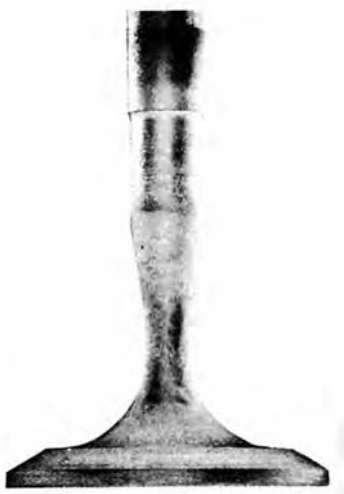
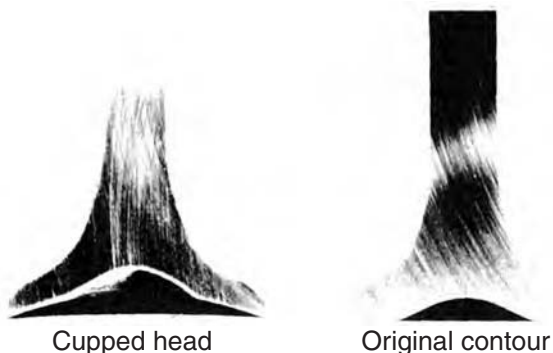

FIGURE 8.6 A “necked” valve (excessive tension). (Courtesy of Federal-Mogul Corporation)
FIGURE 8.7 A cupped valve head (excessive tension). (Courtesy of Federal-Mogul Corporation)
- **Spring Tension.** Spring tension should be within 5–10% of the manufacturer's specifications, with no more than a 10 lb difference among springs. It is a good idea to test new springs, too. Installing the wrong valve springs with too much spring tension can cause necked (stretched) valves (**Figure 8.6**), cupped valves (**Figure 8.7**), and worn valvetrain parts. An oversprung valvetrain can also consume power.